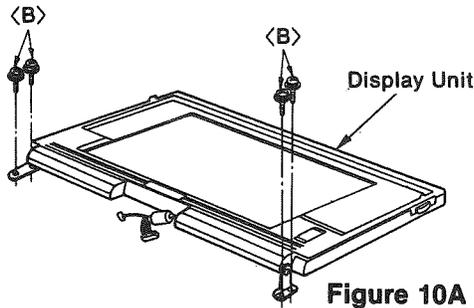

Figure 10A
(5) Remove four screws  (2.6×12mm), then remove the Display Unit as shown in Figure 10A.